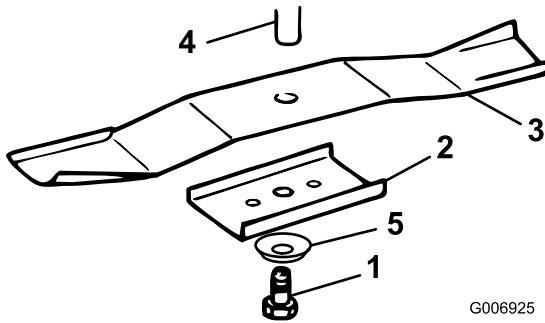

Figure 33
3. Remove the bolt (5/8 inch wrench), curved washer, retainer, and blade (Figure 33). Use a block of wood
1. Install each blade, blade retainer, curved washer (cupped side toward blade), and the blade bolt (Figure 33).